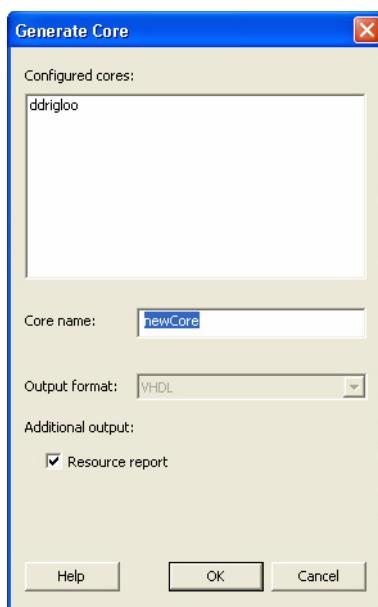

Figure 8-4 • Generate Core Window
4. Once the desired configuration is selected, click the **Generate** button. The Generate Core window opens (Figure 8-4).